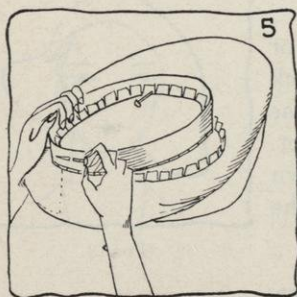
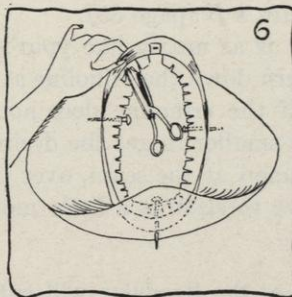

FIG. 5.
FIG. 6.
- e. Pin headsize band to crinoline (see Figure 5), but be sure that the headsize band remains oval. After headsize band is pinned in place, hold it away from you, for it is easier to see the shape of the headsize band at a distance (see Figure 6).
- f. Slash crinoline *almost* up to the headsize band (see Figure 6). Do not slash it all of the way because you may want to shift your brim on your headsize band later.